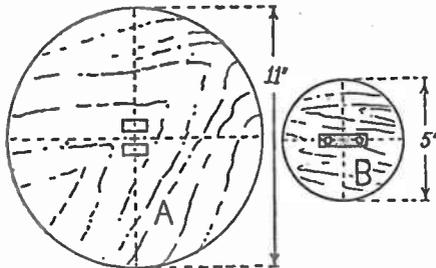

Fig. 2—Marking off the base and platform
Details of base and platform are given in Fig. 2. By marking a broken line across the discs at the widest point and a similar one at right angles, positioning of the slots in the base (A) and the screw holes in the platform (B) is simplified. The base is 1 in. thick; its slots lie ½ in. apart and are 1 in. long by